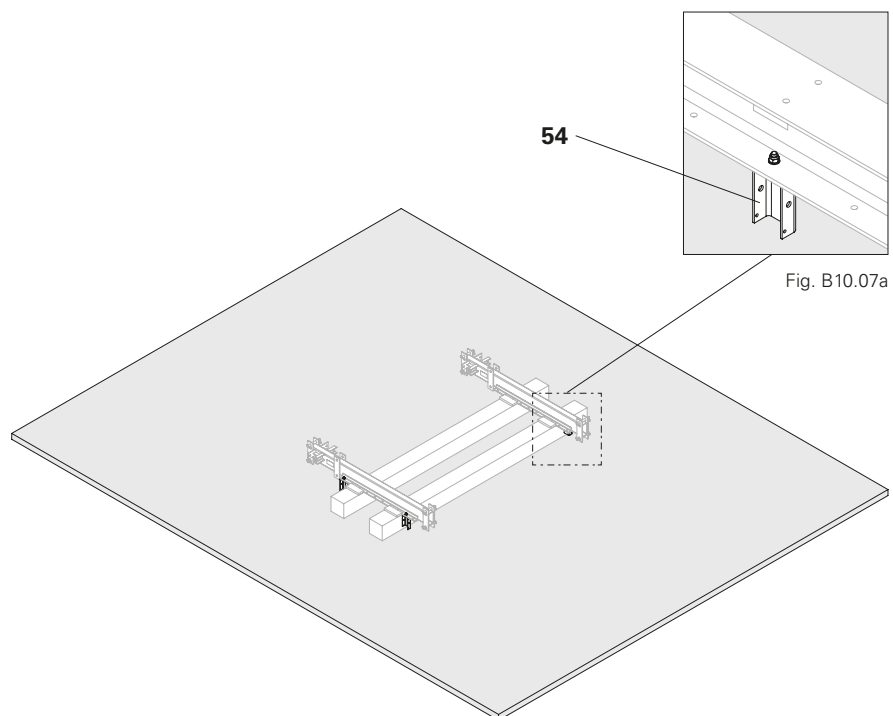

Fig. B10.07
2. Bolt the Ladder Cage Connection VT 20 ACS (**54**) at the installation position with the fixing materials provided. (Fig. B10.07 + B10.07a)